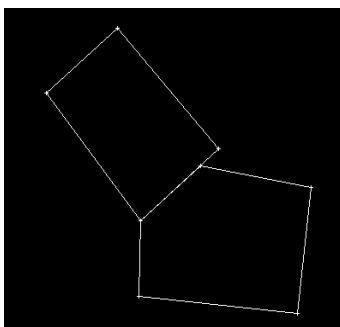

Figure 10-42. Results – No
- **No** – matches the first source and destination point exactly and any difference will be shown in the second source and destination points. This is useful when comparing calculated deed points with field surveyed points (Figure 10-42 on page 10-39).